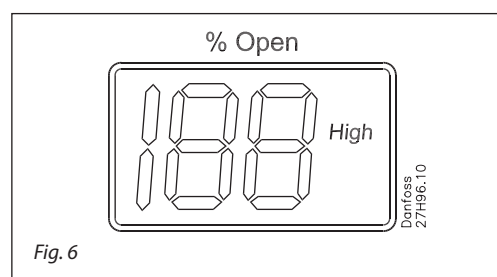

Fig. 6
- **High** represents that ICAD 600A-TS is operating the ICMTS valve like an ON/OFF solenoid valve with high speed according to a digital input signal (see fig. 6).